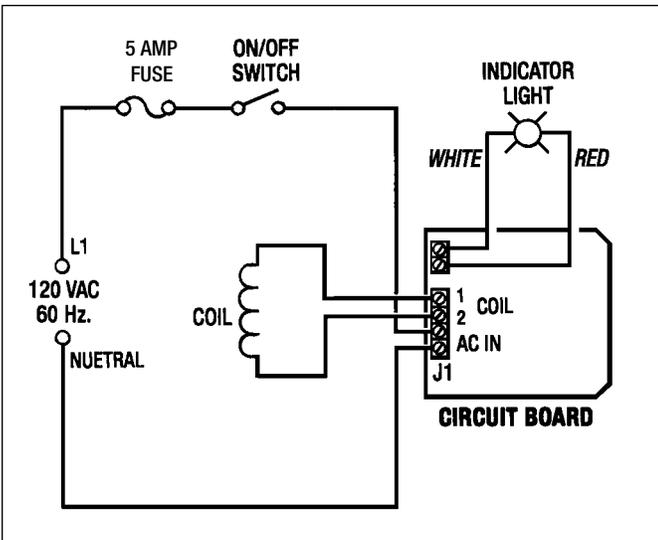

Figure 5.1 - Test Set-Up Electrical Schematic
3. Remove the cover from the Electric Box (#405) and with a similar Test Set-up which is shown in *Figure 5.1*, apply 120 VAC to the Terminal Strip J1 on the Circuit Board (#400). This will release the brake stack.
Provisions for manual operation checks must be made if the drive unit has been removed for service and repair. 120 VAC, 60 Hz. electrical service is required to energize the coils. (See Figure 5.1 below for the Test Set-Up)
5. Remove the cover from the Electric Box (#405) and with a similar Test Set-Up, as shown in Figure 5.1, apply 120 VAC to the (2) "AC In" terminals on the Terminal Strip J1. This will allow the brake stack to drop down.
7. Install the (3) Flat Washers (#193), (3) Lockwashers (#128) and (3) Hex Nuts (#165) back on the Driver Pins (#195). **Torque to 7 Ft. Lbs.**